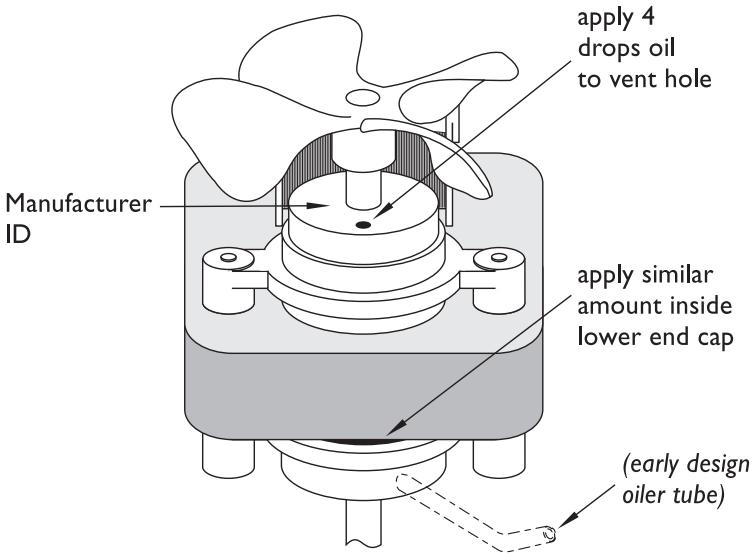

Figure 5 - PUMP MOTOR
2. Oil the pump motor every 6 months with Anderol #465 (GAYMAR P/N 77137-000) or equivalent to extend the life of the T/Pump motor. Anderol #465 is a synthetic oil. Do not use a petroleum-based oil since it will leave a residue as it breaks down, causing the motor to seize. Add four (4) drops of oil to the vent hole in the bearing housing of the motor located below the fan. Using a micro oiler, apply a similar amount to the lower bearing at the location indicated in figure 5.
NOTE: Early versions of the pump motor have an oiler tube which does not effectively distribute oil to the lower bearing. Do not use the oiler tube to apply oil to the lower bearing. Use a micro oiler to apply oil directly to the locations shown in figure 5.